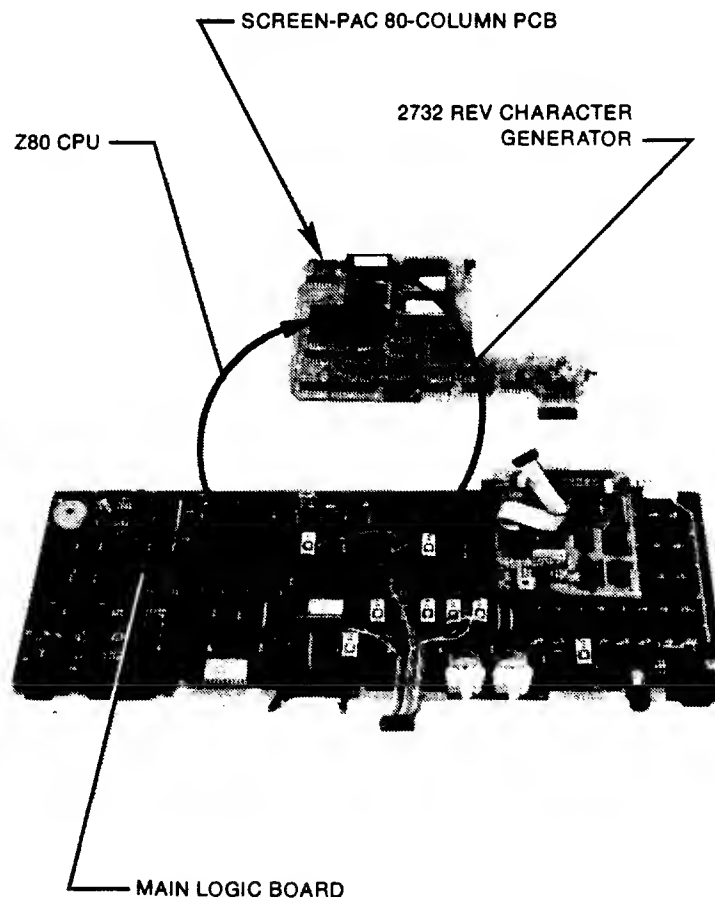

FIGURE 6-31. SCREEN-PAC 80-COLUMN PCB
- 6.12.1.5 Remove the Z-80 chip from the logic board. This chip is located in Row C of the logic board between columns 11 and 14 (Figure 6-31).
- 6.12.3.4 Hold the main logic board component-side up. Locate the 40-pin socket near the center of the SCREEN-PAC board and the 24-pin socket near one edge (Figure 6-31).